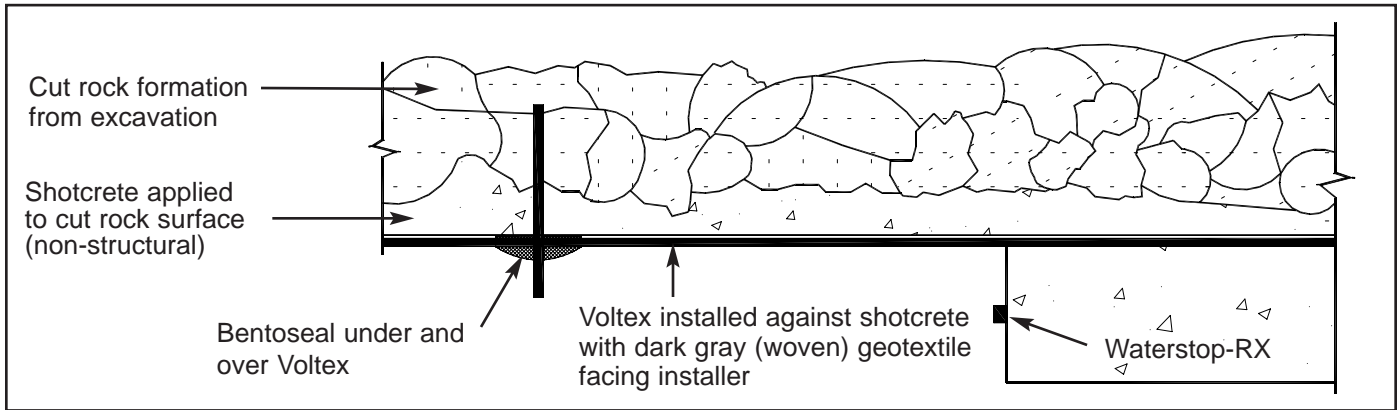

Figure 2.19 - Cut Rock excavation with shotcrete applied to provide a smooth surface for waterproofing installation.
**Preparation:** The surface of auger cast caisson and cut rock excavation walls must be sufficiently planar to provide an adequately smooth surface to apply Voltex. Voltex can be applied over large, relatively shallow indentations where Voltex can conform tight against the surface. The surface should not contain voids or sharp protrusions in excess of 1" (25 mm). Fill all large recesses between caissons with cementitious grout prior to installing Voltex (Figure 2.20). Cut rock excavations typically require shotcrete or grout work to provide acceptable surface to install Voltex (Figure 2.19).